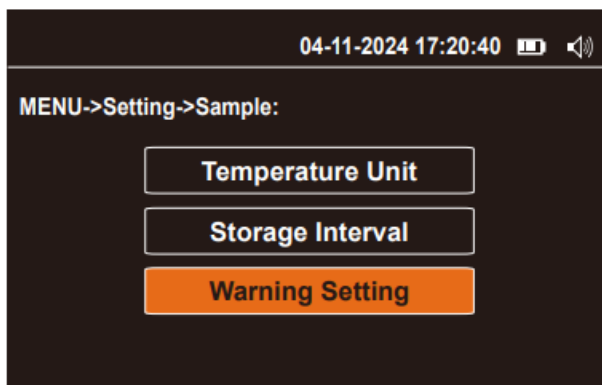

Fig.11
- Press  or  to switch to Save when the setting is complete and press  to save (Fig.11).